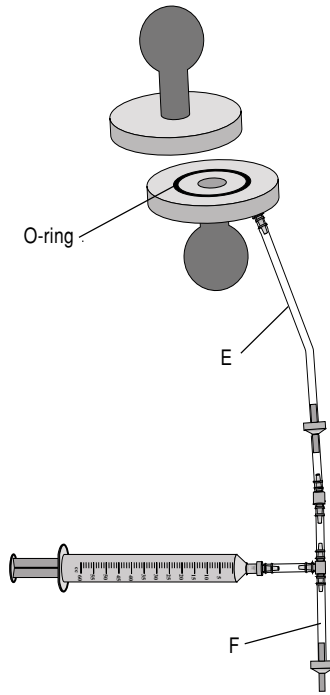

Figure 2.1
1. Assemble the plates using the small O-ring and pull a vacuum in the inter-plate space (Figure 2.1).